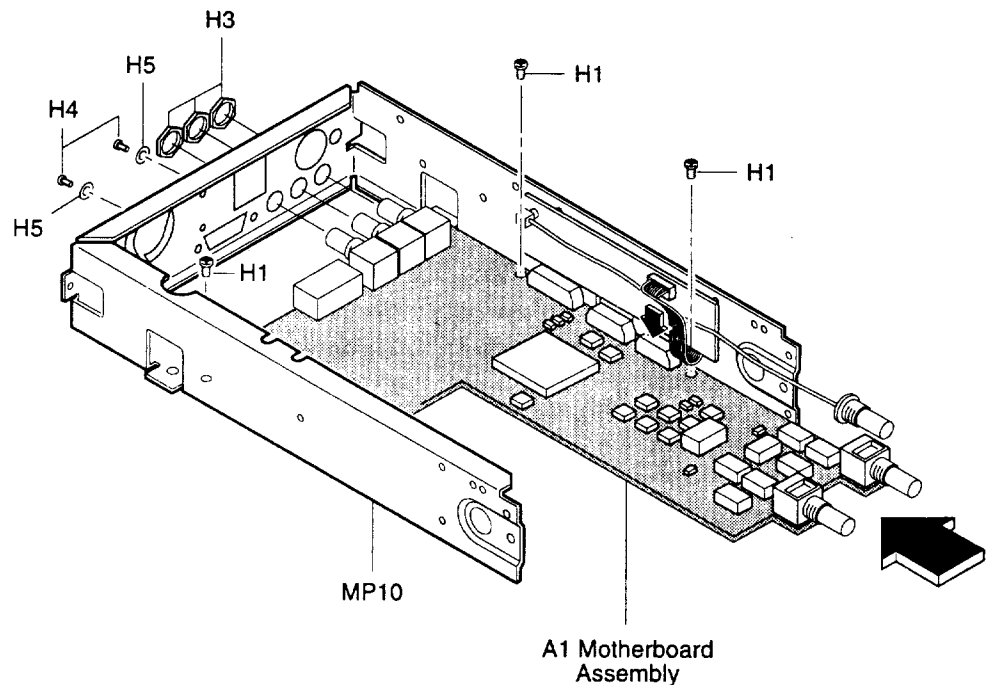

Figure 4-2A. DC Power Input Assembly Retrofitting
1 Slide A1 Motherboard Assembly into the new chassis (MP10) as shown in Figure 4-2A.
- 2 Insert but do not tighten the three TORX 15 screws (H1) that attach A1 Motherboard Assembly to the new chassis (MP10) as shown in Figure 4-2A.
- 6 Tighten the three H1 screws, shown in Figure 4-2A, to secure the motherboard to the chassis.